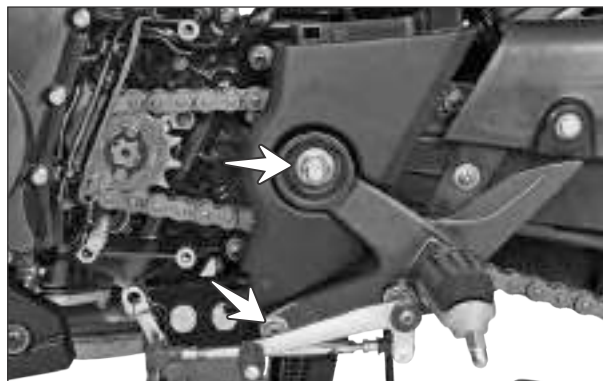

Fig. 2.93
- In-order to remove the foot rest assembly, remove the swing arm axle nut along with punched washer. Fig. 2.93) (
- Also, remove the hexagonal socket head cap screw (M10x25 - 1 no.) along with punched washer from the rider foot rest assembly and take out the rider foot rest assembly. (Fig. 2.93)